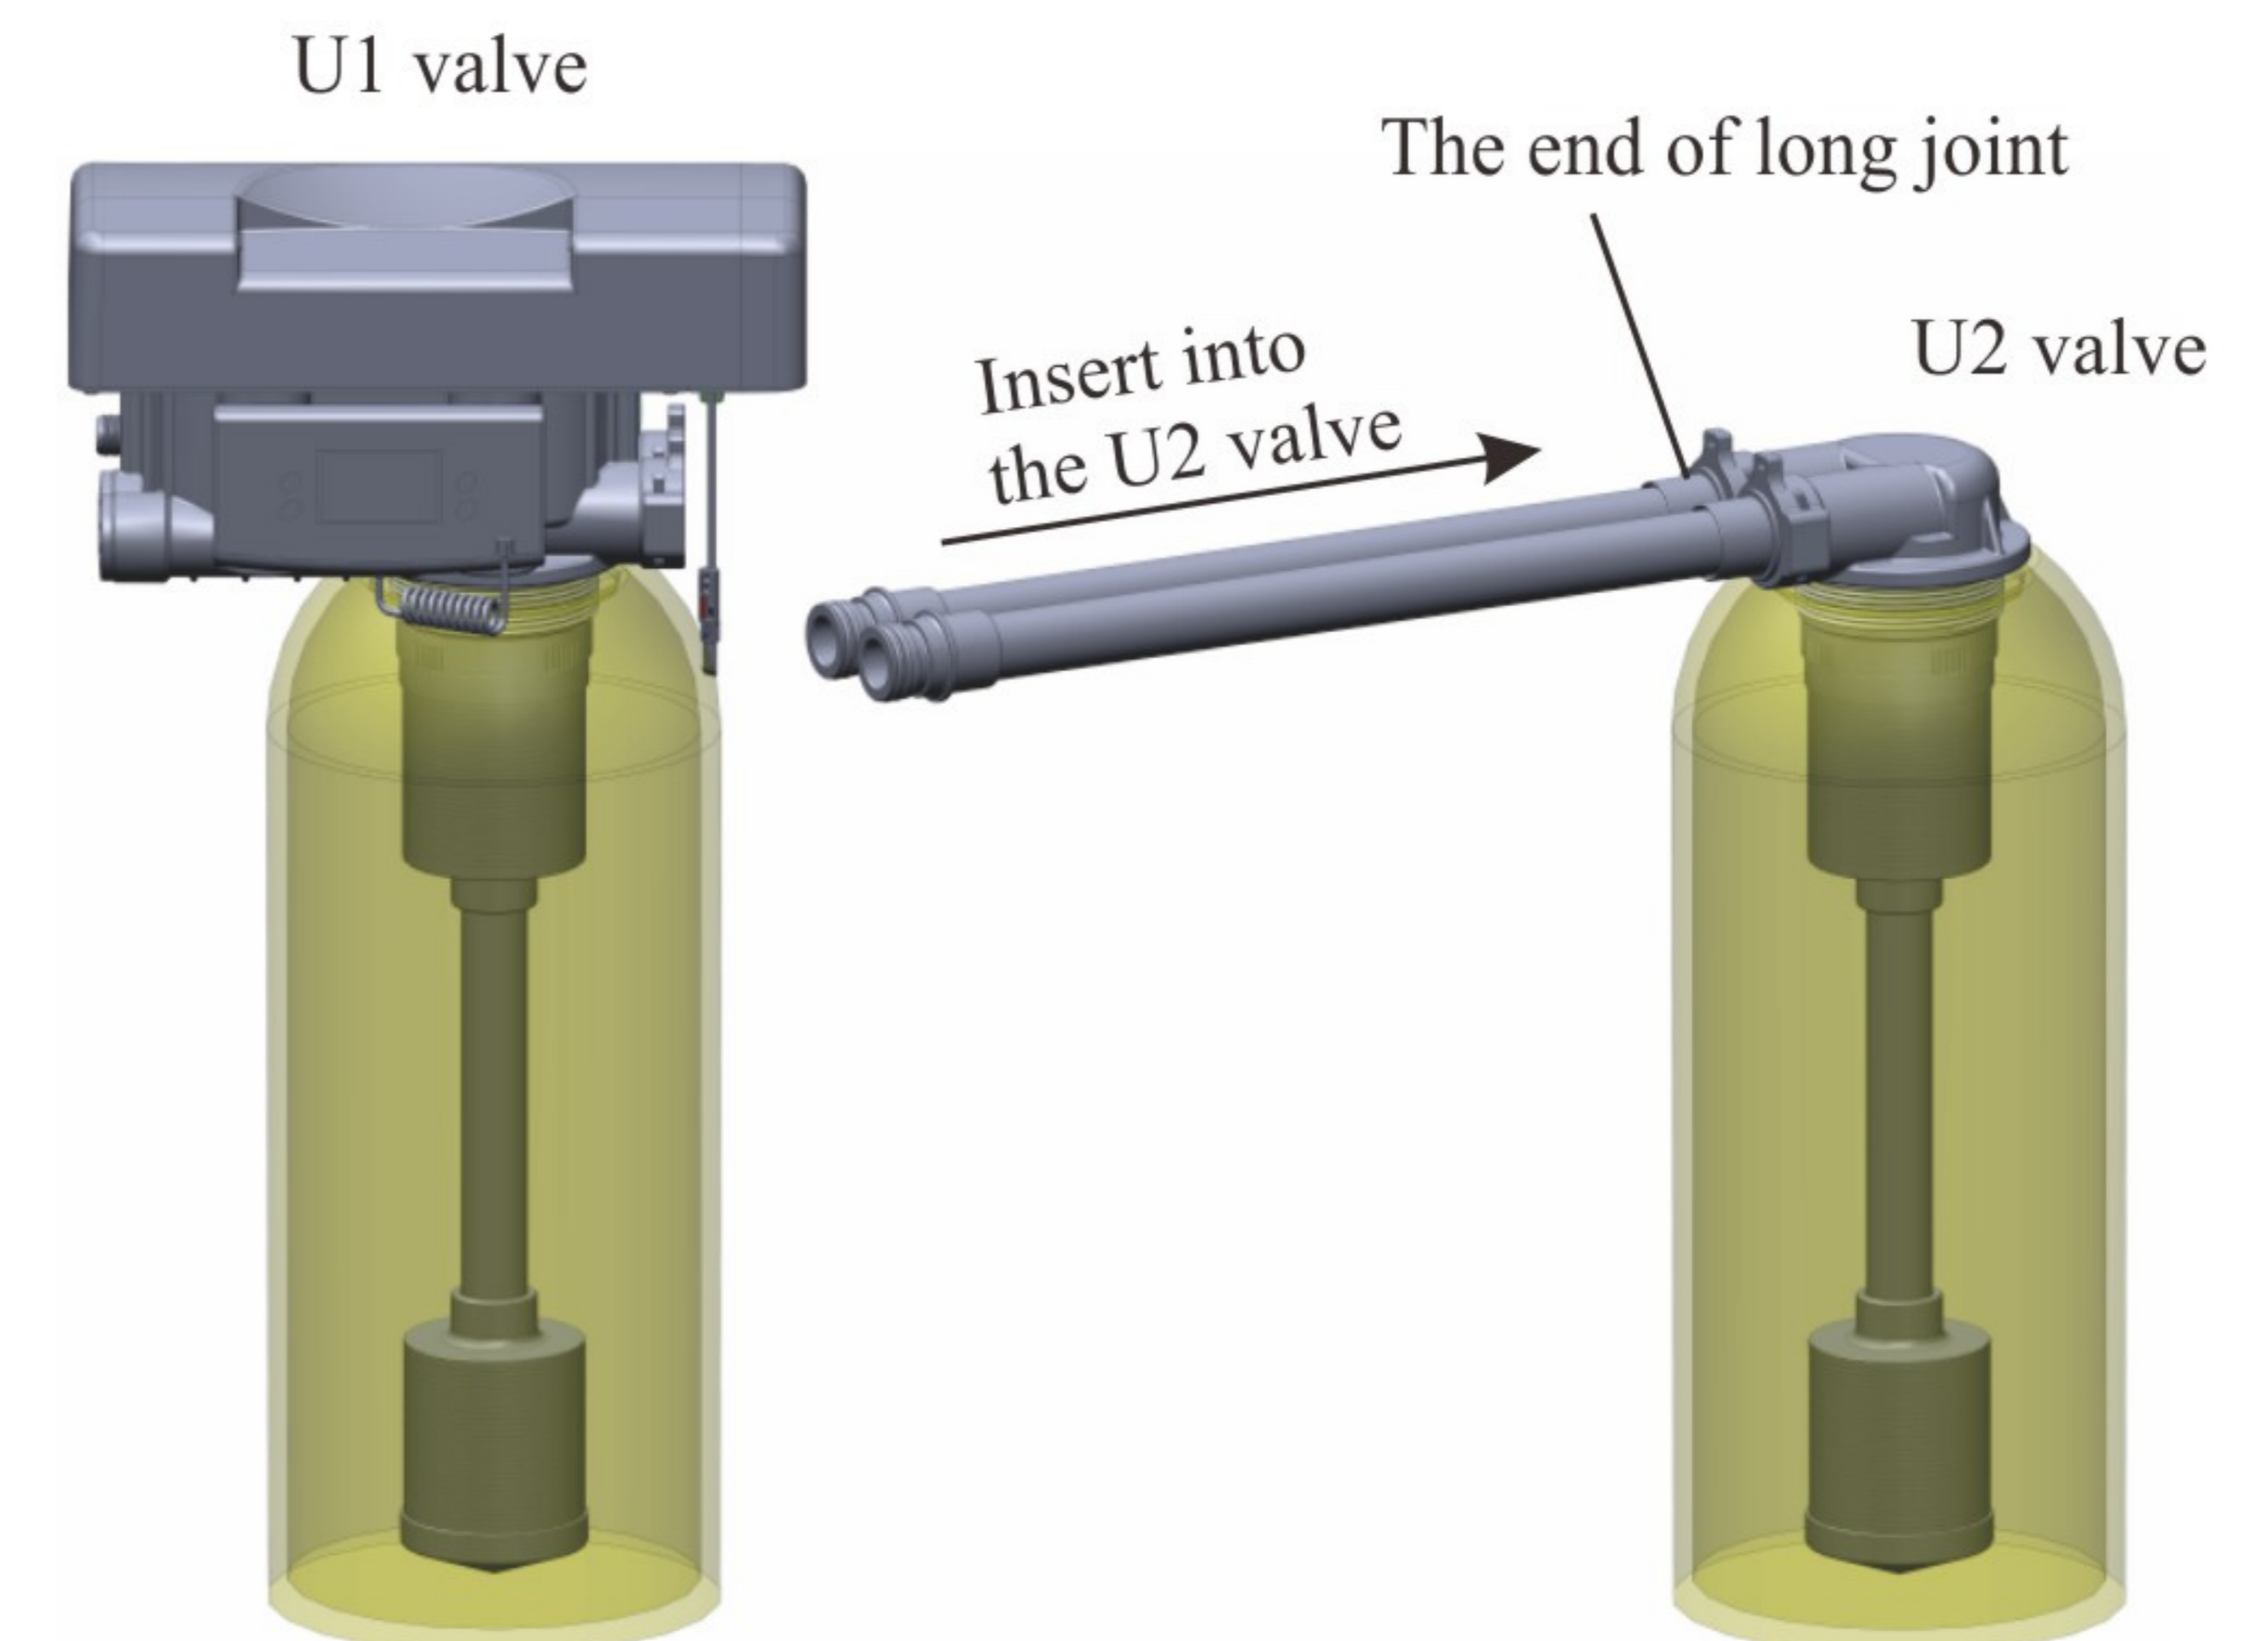

Figure 2-2-2
2. As Figure 2-2-2 shows, insert one end of the long joint of the connecting pipe completed in step 1 to the U2 valve.